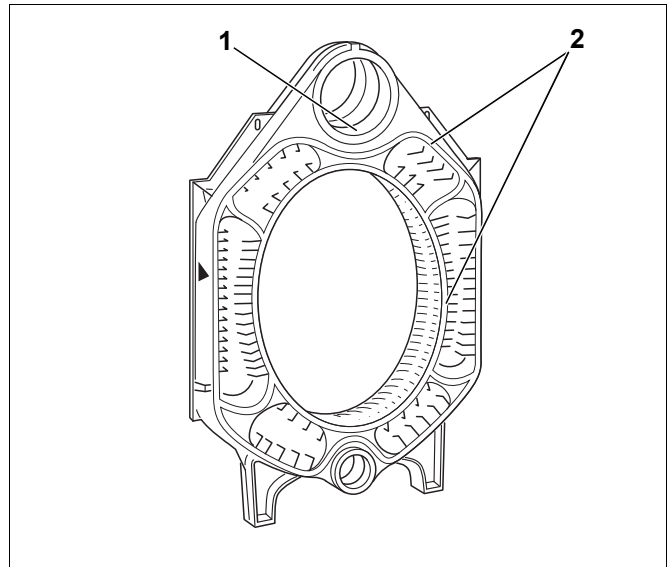

Fig. 17 Prepare the central section
- Coat the hubs with jointing compound (Fig. 17, [1]).
- Coat the sealing springs with adhesive (adhesive base) (Fig. 17, [2]).